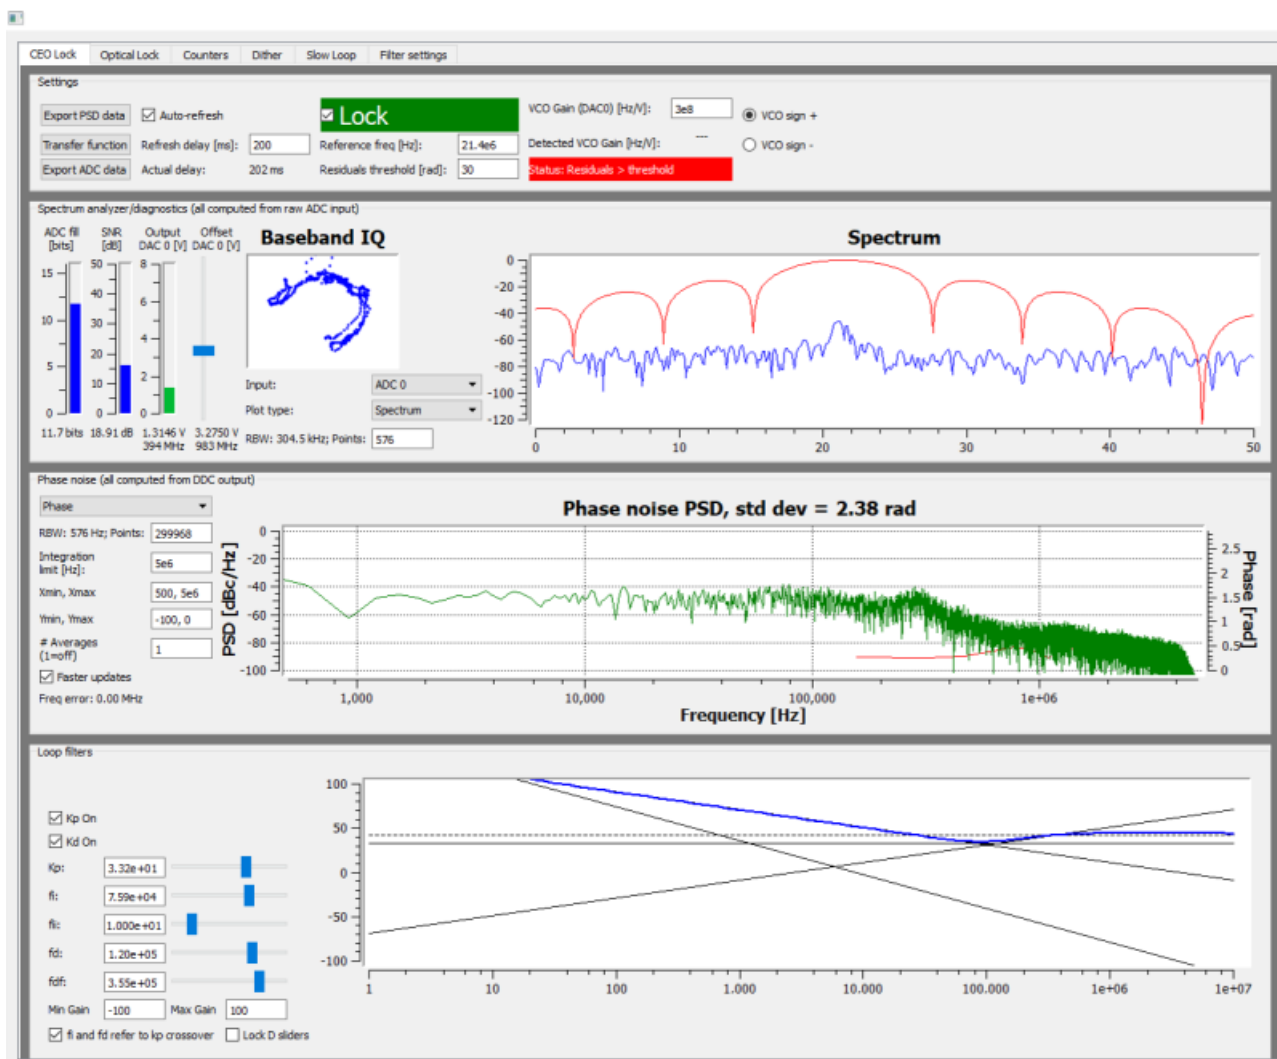

Fig. 6: Locking  $f(\text{CEO})$
2. Press the "Lock" button (figure 6, top middle). If the system doesn't lock, change the VCO sign to the opposite polarity (top right) and try again. If the system still won't lock, try lowering the  $K_p$  value (bottom left).